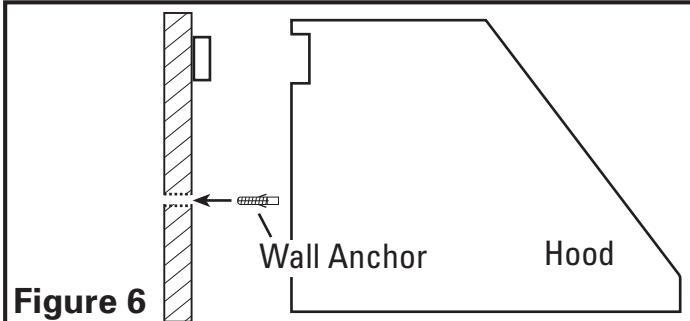

Figure 6
- Install wall anchors by drilling holes at the marked locations on the template then installing the anchors in place. An alternative method is to rest the cavity in the back side of the hood on the wood strip and mark drilling locations on the wall for wall anchors on the bottom rear of the hood then remove hood and install wall anchors (**Figure 6**).